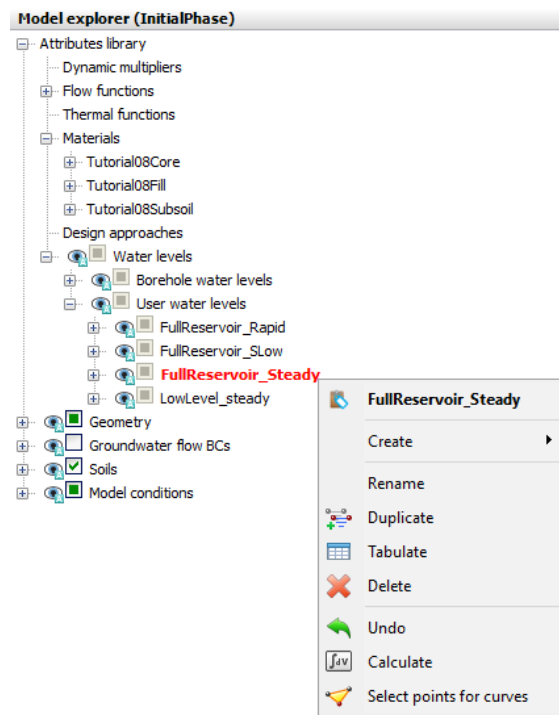

Figure 178: Duplication of water level
8. Due to the global nature of the water levels, if an attribute is assigned to a water level in the model it will affect it in all phases. The water level in this phase has the same geometry with the one previously defined, however it is time dependent and a function needs to be assigned to it. As a result, it is required to create a new water level with the same geometry and different attributes. In **Model explorer** go to the **Attributes library** > **Water levels** > **User water levels** and right-click on FullReservoir\_Steady as shown in Figure 178 (on page 203). Then select the **Duplicate** option in the appearing menu.